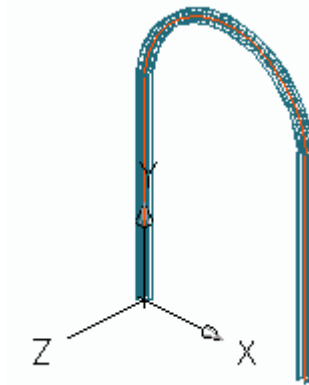

Figure 75: Curved beams
- Select a user coordinate system as shown in Figure 75.